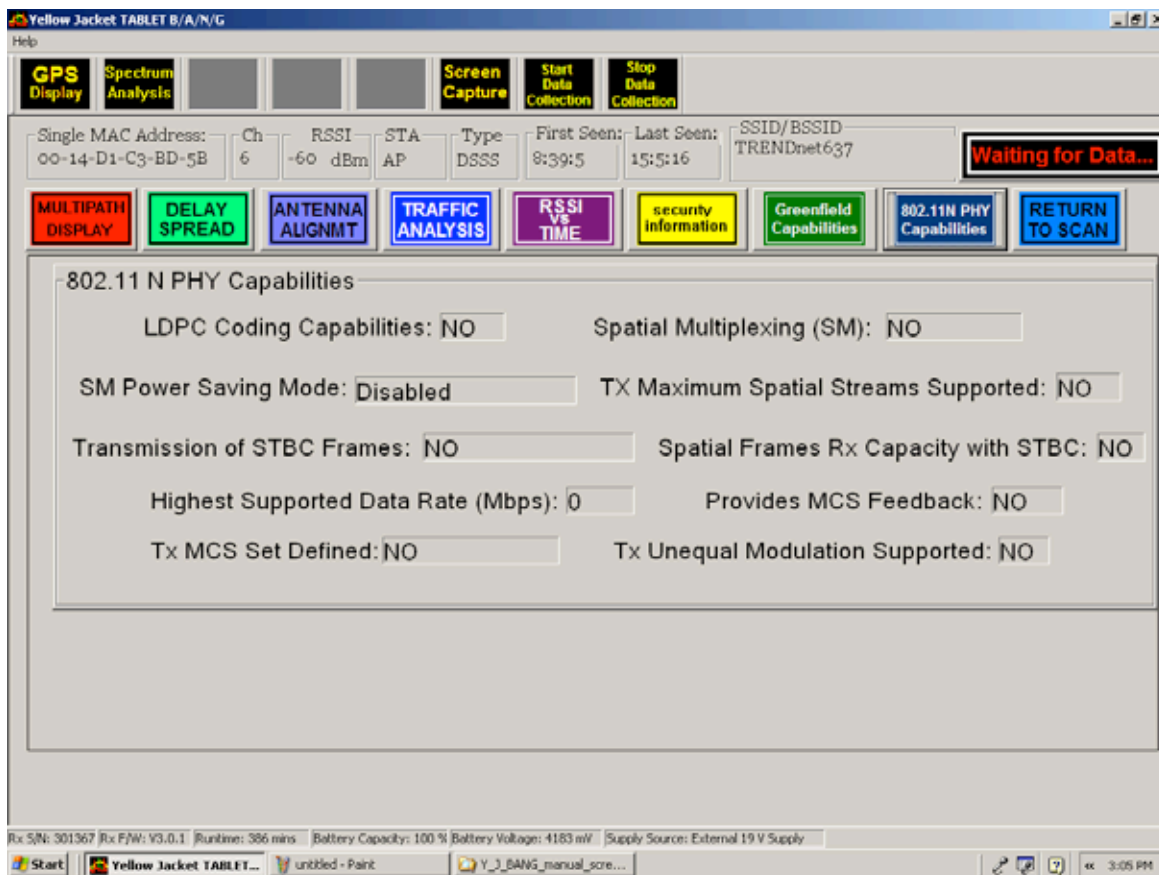

Figure 21. 802.11N PHY Capabilities function window
**802.11 N PHY Capabilities:** The window associated with this function appears in Figure 21: